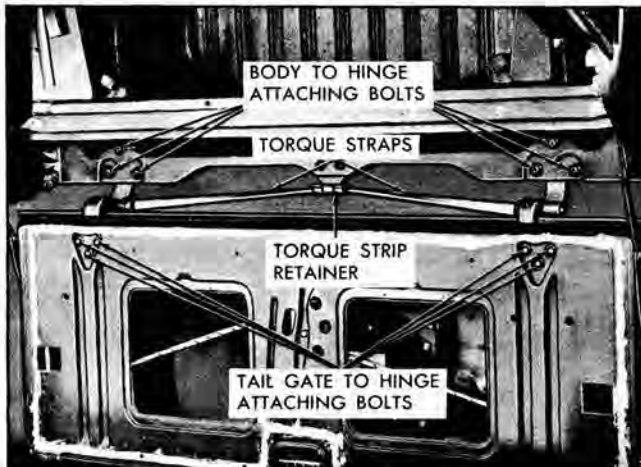

Fig. 5-11 Tail Gate Hinges
8. Remove tail gate to hinge attaching bolts (Fig. 5-11) and remove tail gate from body.
tail gate hinge and from torque strap center retainer (Fig. 5-11) and remove torque straps from body.
2. To correct a condition where the glass is "cocked" in the glass run channels, loosen window regulator attaching screws (Fig. 5-11), rotate regulator assembly clockwise or counterclockwise, as required, to eliminate "cocked" condition.